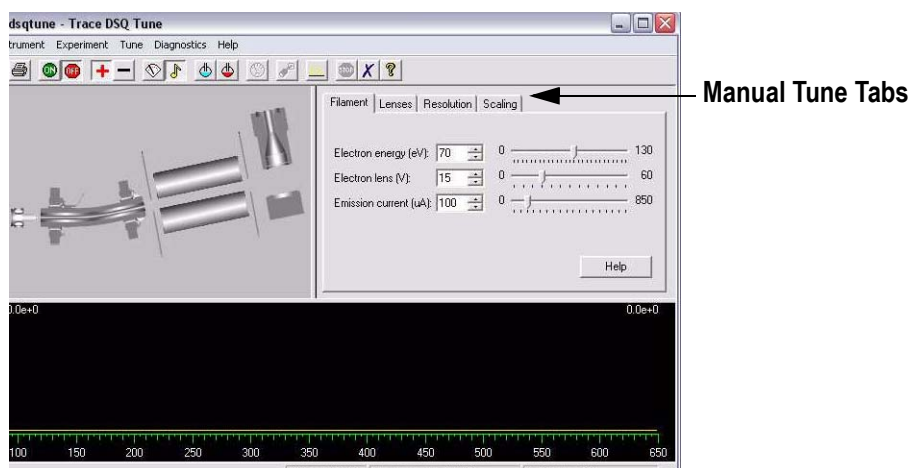

Figure 3-3 Tune | Show Manual Tune Tabs
- a. Select **Tune | Show Manual Tune View** to manually set the tune parameters in the tabs indicated in Figure 3-3.